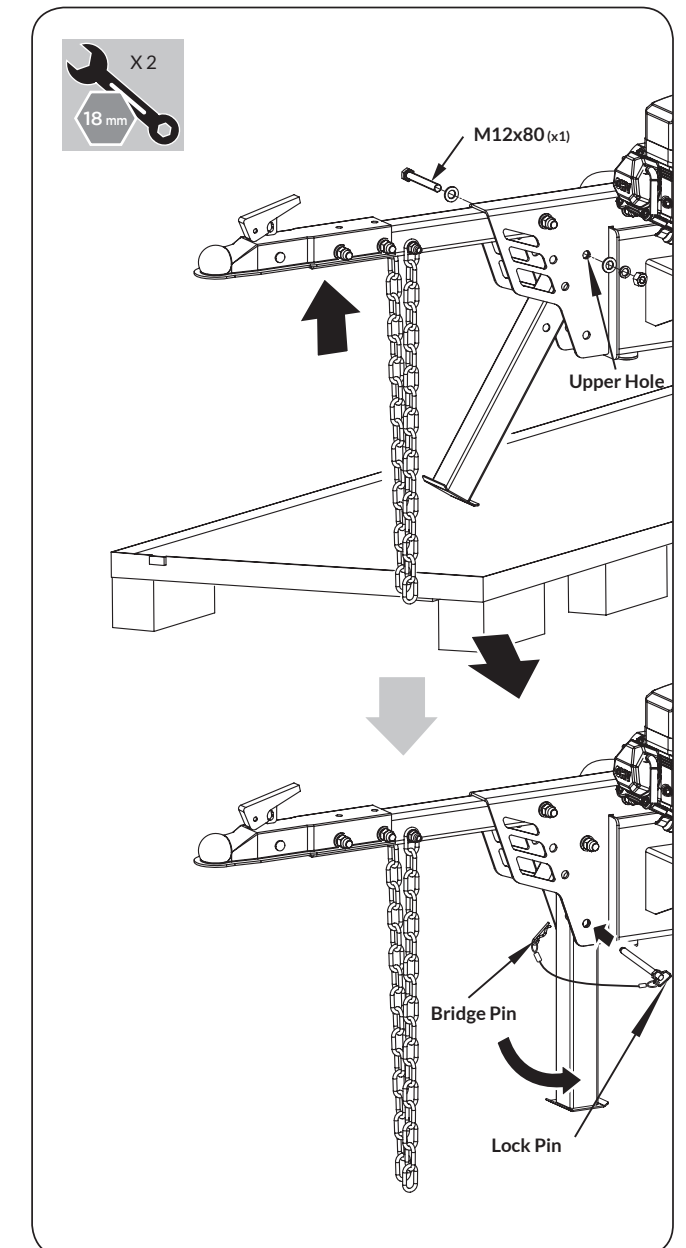

Figure 9
3. Insert the pin into the lower hole and secure with the bridge pin. (See **Figure 9**)